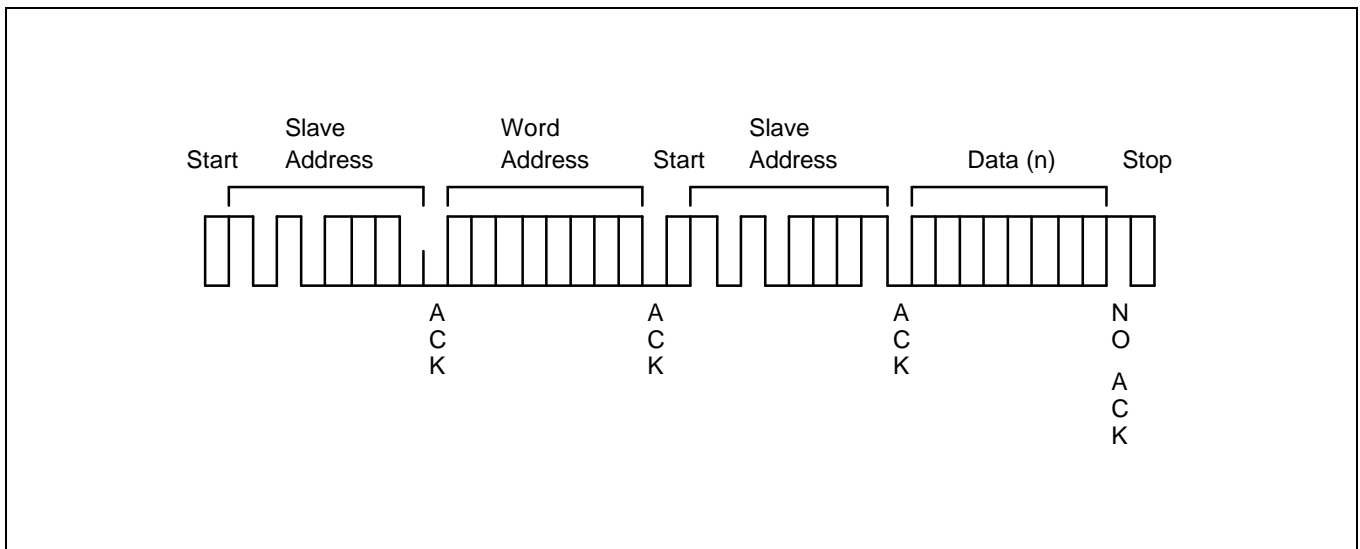

Figure 5-13. Random Address Byte Read Operation
5. The S524L50D51 stops transmitting data and reverts to stand-by mode (see Figure 5-13).